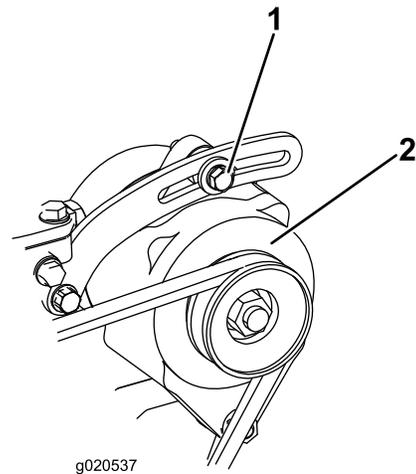

Figure 74
Check the condition and tension of the belt (Figure 74) after every 100 operating hours.
2. If the deflection is not 10 mm (3/8 inch), loosen the alternator mounting bolts (Figure 74). Increase or decrease the alternator belt tension and tighten the bolts. Check the deflection of the belt again to ensure that the tension is correct.